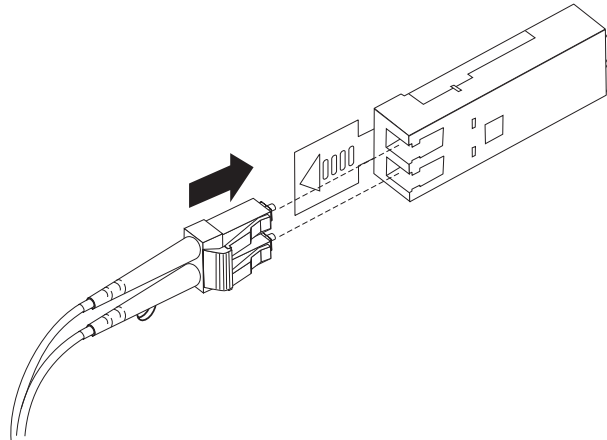

Figure 34. Inserting an LC-LC Fibre Channel cable into an SFP module
- Carefully insert this end of the LC-LC cable into an SFP module that is installed in the EXP100. The cable connector is keyed to ensure it is inserted into the SFP module correctly. Holding the connector, push in the cable until it clicks into place, as shown in Figure 34.